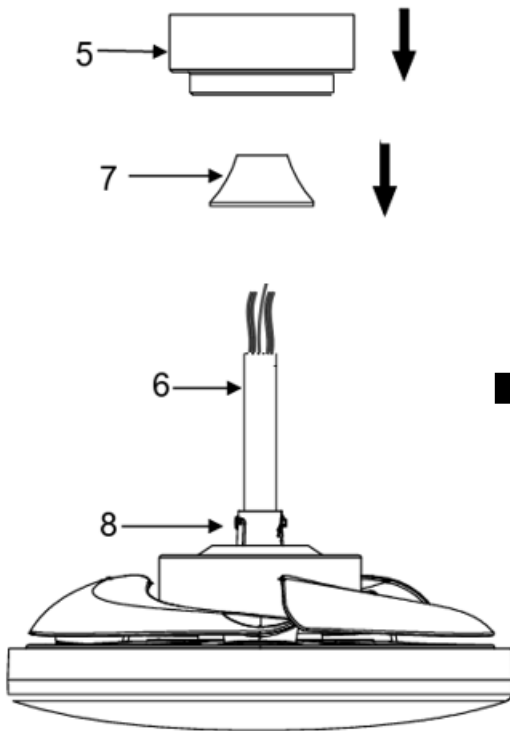
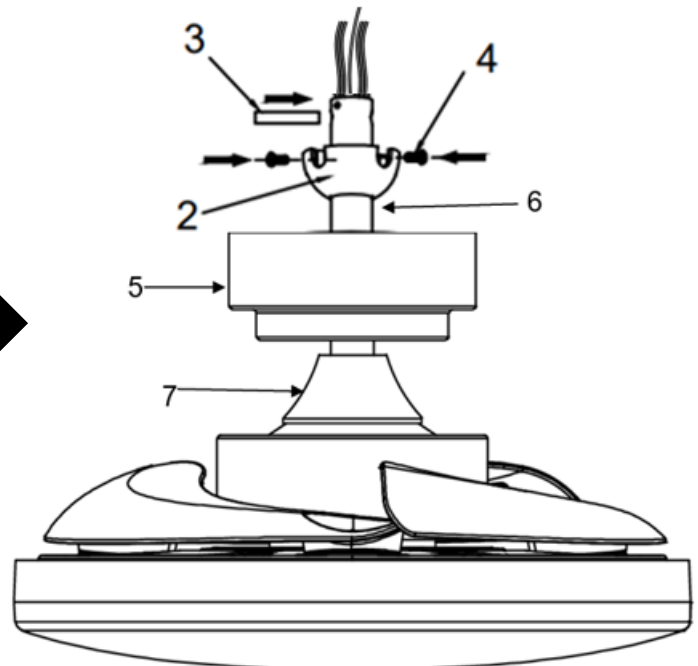

Fig. 6.5
Fig. 6.6
(Fig. 6.5)
7. Insert the canopy (5) over the down rod (6) and install the ball joint (2) and dowel pin (3) back onto the down rod (6) and secure by tightening the set screws (4). (Fig. 6.5 and Fig. 6.6)